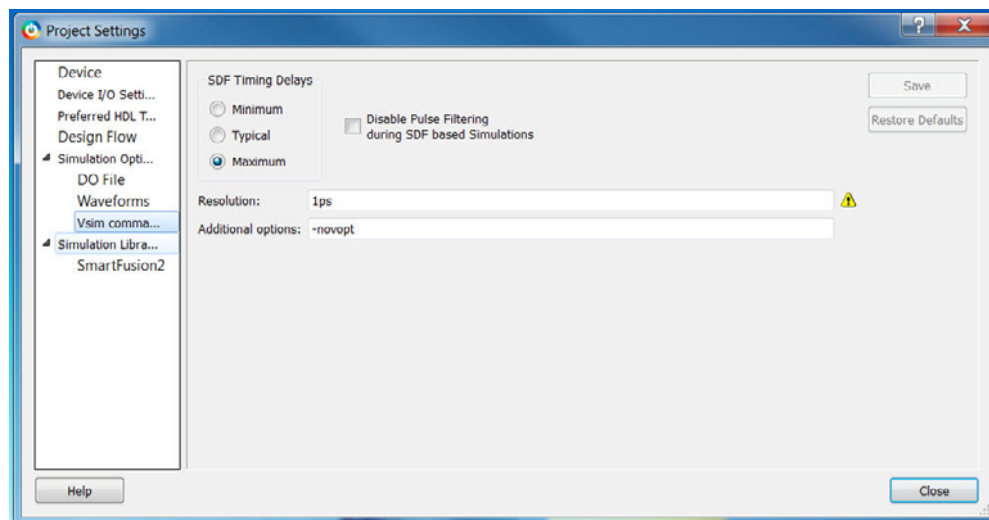

Figure 4-3 • Vsim command Settings
4. Change the default simulation resolution from 1fs to 1ps in the Resolution field. Ignore the warning message. This will speed up the simulation. See Figure 4-3.